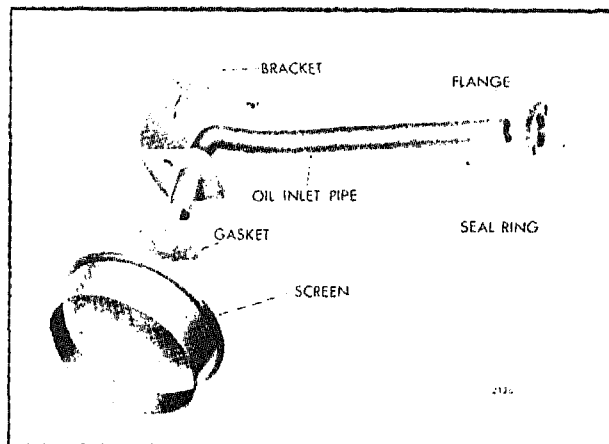

Fig. 9 - Oil Pump Inlet Pipe and Screen
4. Attach the oil inlet screen to the oil inlet pipe support with two bolts and lock washers (Fig. 9).